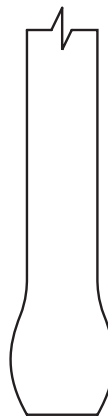

Fig. 6
- (iii) how you would thicken the end of a piece of wrought iron 12 mm square shown in Fig. 6. Name the process and say why this might be carried out. [5]